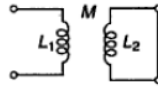

Fig. 14.17
14.28 In the circuit shown in Fig. 14.17 $L_1 = 2 \text{ H}$, $L_2 = 5 \text{ H}$ and $M = 1.8 \text{ H}$. Find the expression for the energy stored after the circuit is connected to a dc voltage of 30 V. Assume M to be positive.